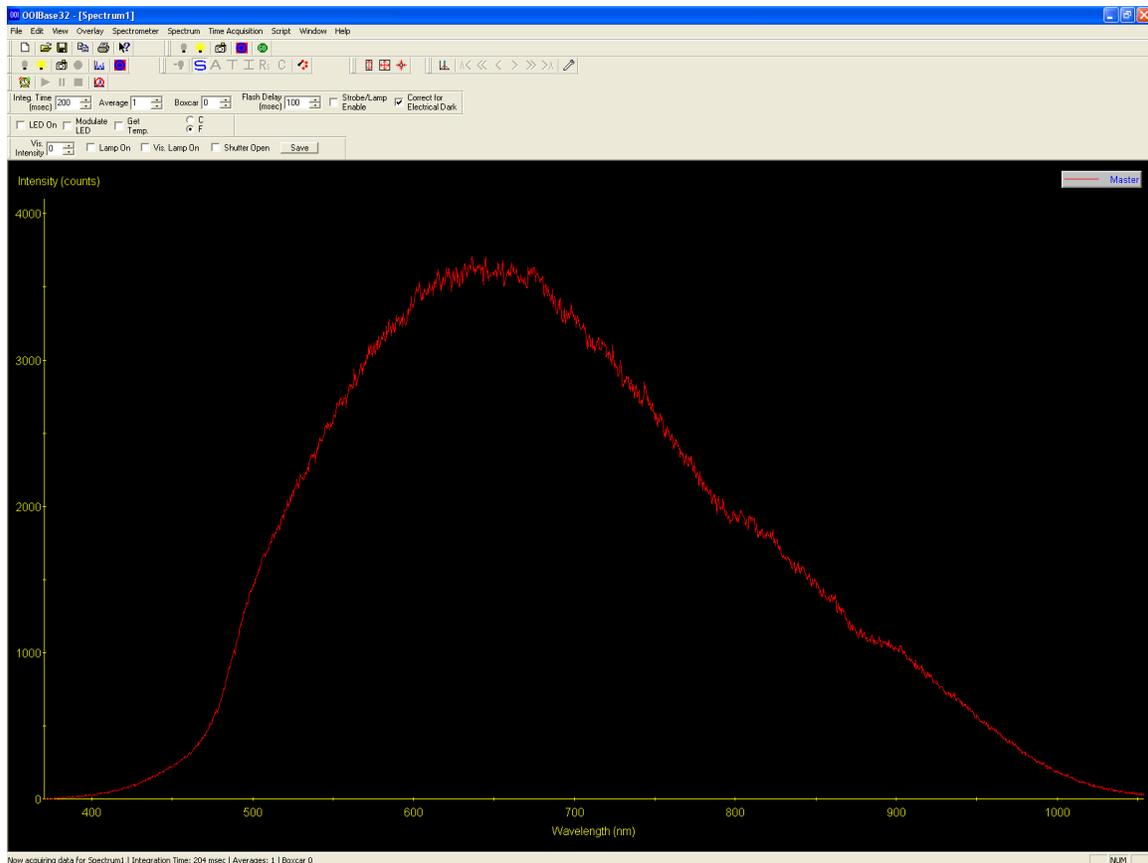

Figure 2
- Pause the data acquisition by clicking on the camera icon near the top of the screen. Figure 2 depicts a sample reference spectrum.